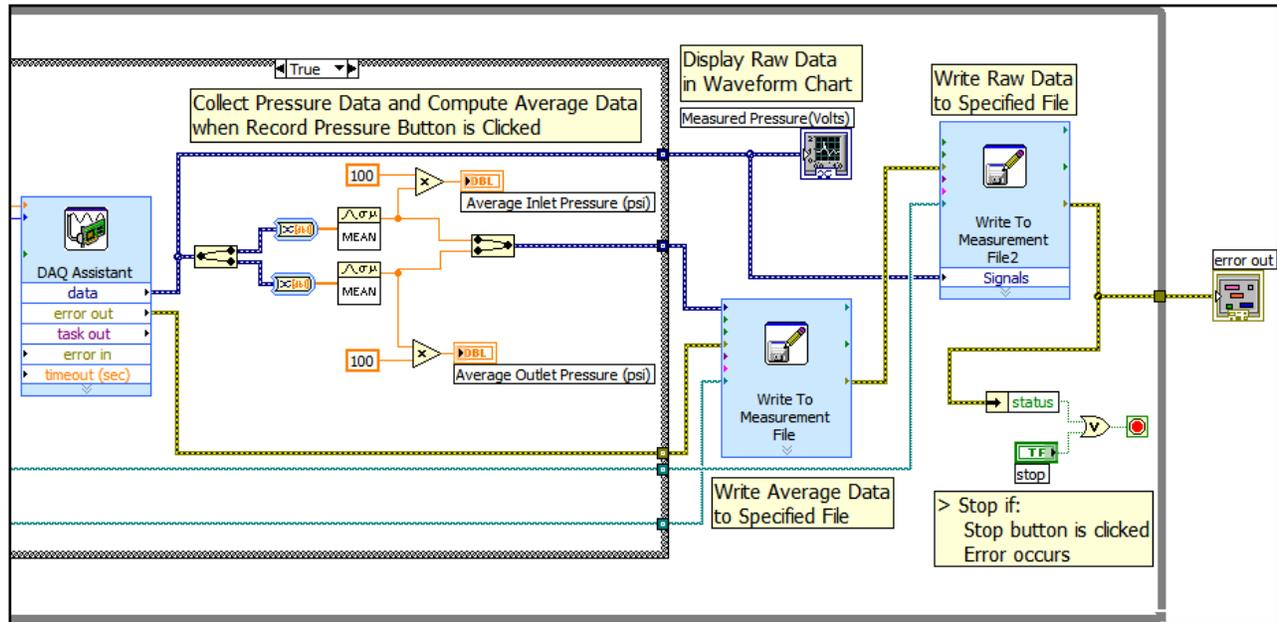

Figure 4. Display and Record Data
- Data is *read, averaged, displayed*, and *written to files* until the **STOP** button is clicked or until an error occurs in the read process. See Fig 4.